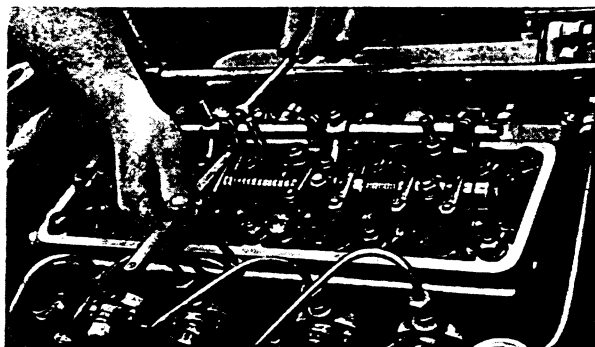

FIG. 112.
8. After adjusting valve clearances, reset decompression cam clearances (see Fig. 112) as follows :—